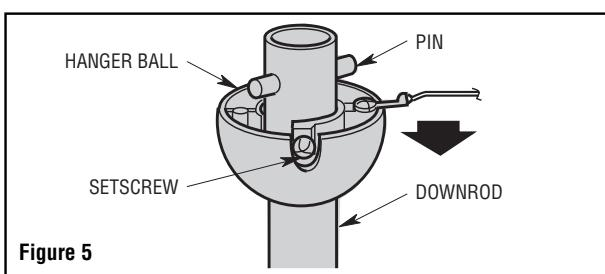

Figure 5
- Remove the hanger ball by loosening the setscrew in the hanger ball until the ball falls freely down the downrod (Figure 5). Remove the pin from the downrod, then remove the hanger ball. Retain the pin and hanger ball for reinstallation in Step 12.